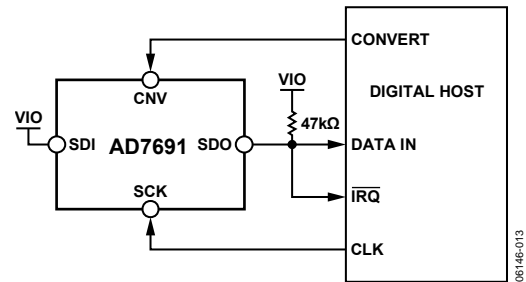
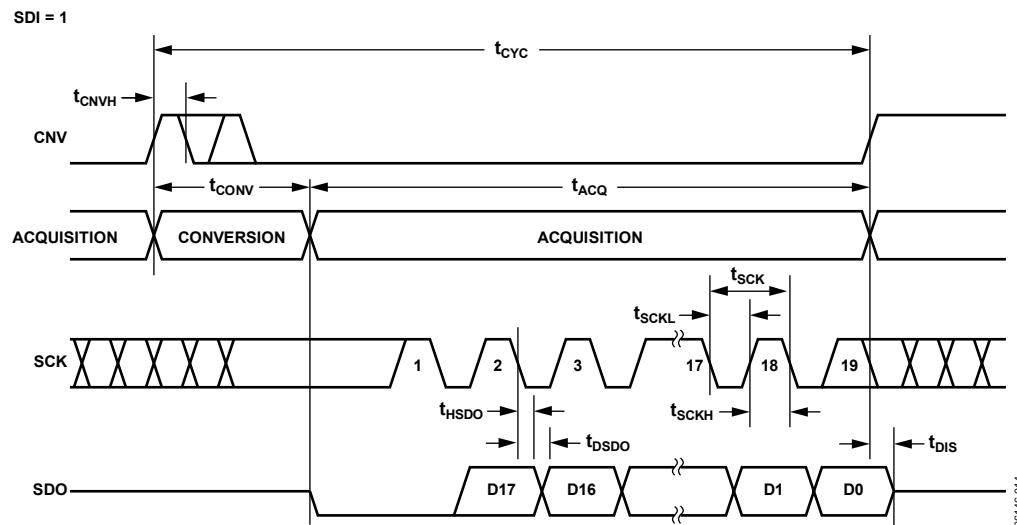
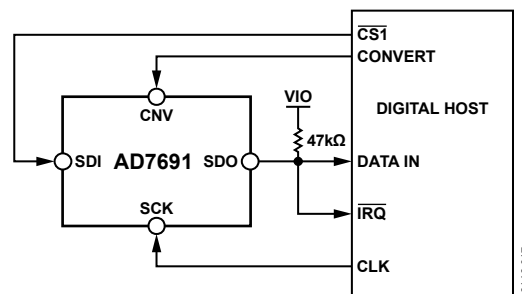
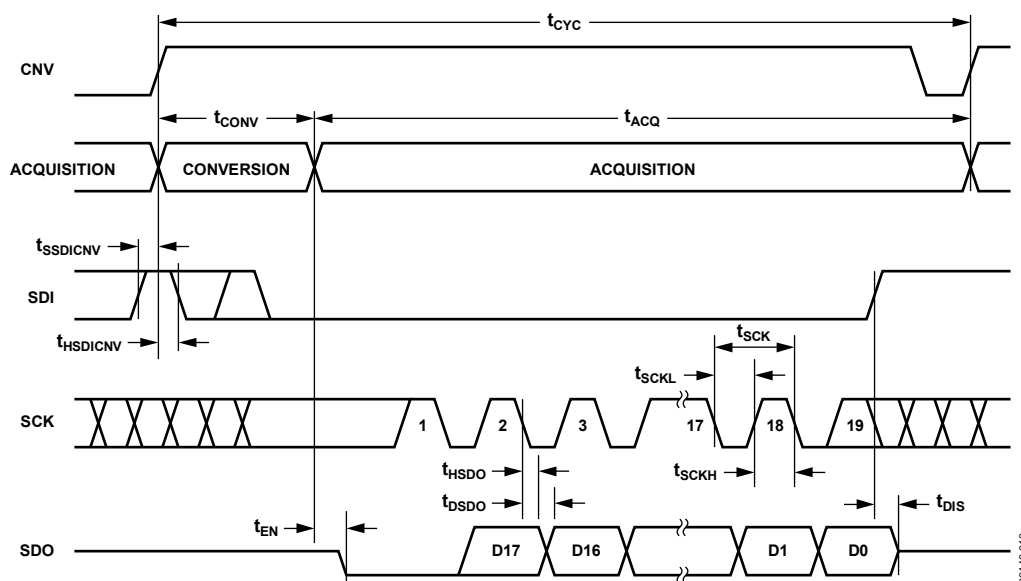

Figure 37. 3-Wire $\overline{\text{CS}}$ Mode with Busy Indicator Connection Diagram (SDI High)
Figure 38. 3-Wire $\overline{\text{CS}}$ Mode with Busy Indicator Serial Interface Timing (SDI High)
Figure 41. 4-Wire $\overline{\text{CS}}$ Mode with Busy Indicator Connection Diagram
Figure 42. 4-Wire $\overline{\text{CS}}$ Mode with Busy Indicator Serial Interface Timing
- In the \overline{CS} mode if CNV or SDI is low when the ADC conversion ends (see Figure 38 and Figure 42).
The connection diagram is shown in Figure 37, and the corresponding timing is given in Figure 38.
The connection diagram is shown in Figure 41, and the corresponding timing is given in Figure 42.